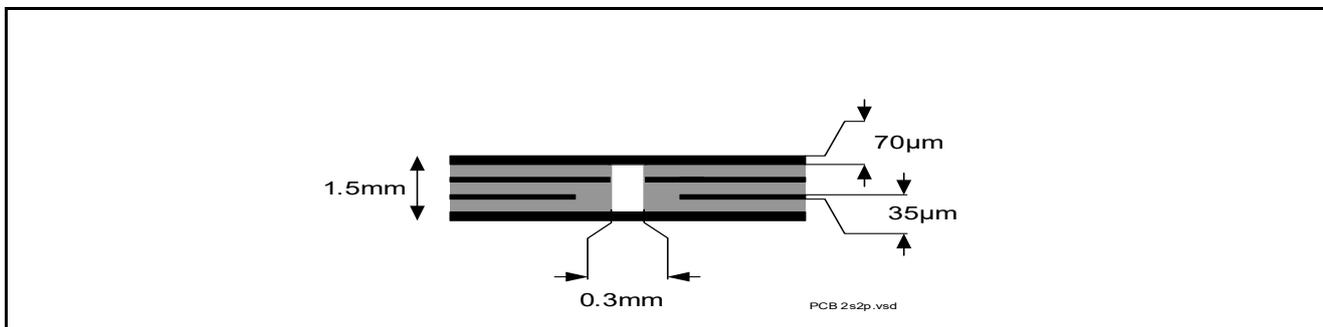

Figure 4 2s2p PCB Cross Section
2) Specified  $R_{thJA}$  value is according to JEDEC JESD51-2,-5,-7 at natural convection on FR4 2s2p board with 1 W power dissipation equally dissipated for both channel at  $T_A=105^\circ\text{C}$ ; The product (chip + package) was simulated on a 76.4 x 114.3 x 1.5 mm board with 2 inner copper layers (2 x 70  $\mu\text{m}$  Cu, 2 x 35  $\mu\text{m}$  Cu). Where applicable, a thermal via array under the exposed pad contacts the first inner copper layer. Please refer to **Figure 4**.